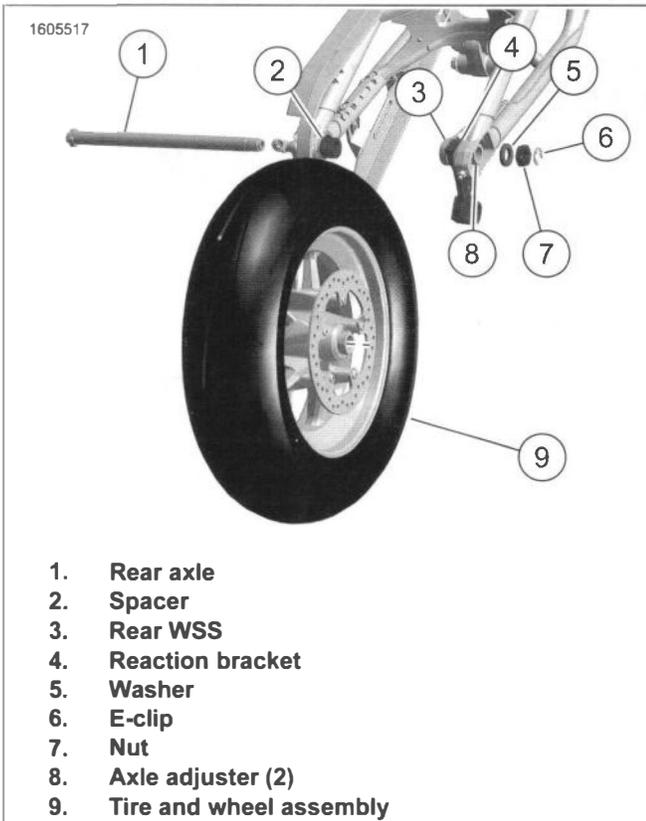

Figure 3-6. Rear Wheel Mount
1. See Figure 3-6. Remove rear axle.
- a. Discard E-clip (6).
- b. Remove nut (7).
- c. Remove washer (5).
- e. Support wheel (9).
- f. Remove rear axle. Catch rear WSS (3) and spacer (2).
1. See Figure 3-6. Install rear wheel.
- a. Apply a light coat of anti-seize lubricant to rear axle (1), wheel bearing bores, and bore of wheel bearing spacer.
- f. See Figure 3-6. Install rear axle through rear wss (3), reaction bracket (4), right leg of rear fork and axle adjuster (8).
- g. Install washer (5).
- h. Install nut (7). Hand-tighten.
- i. Install **new** E-clip (6).